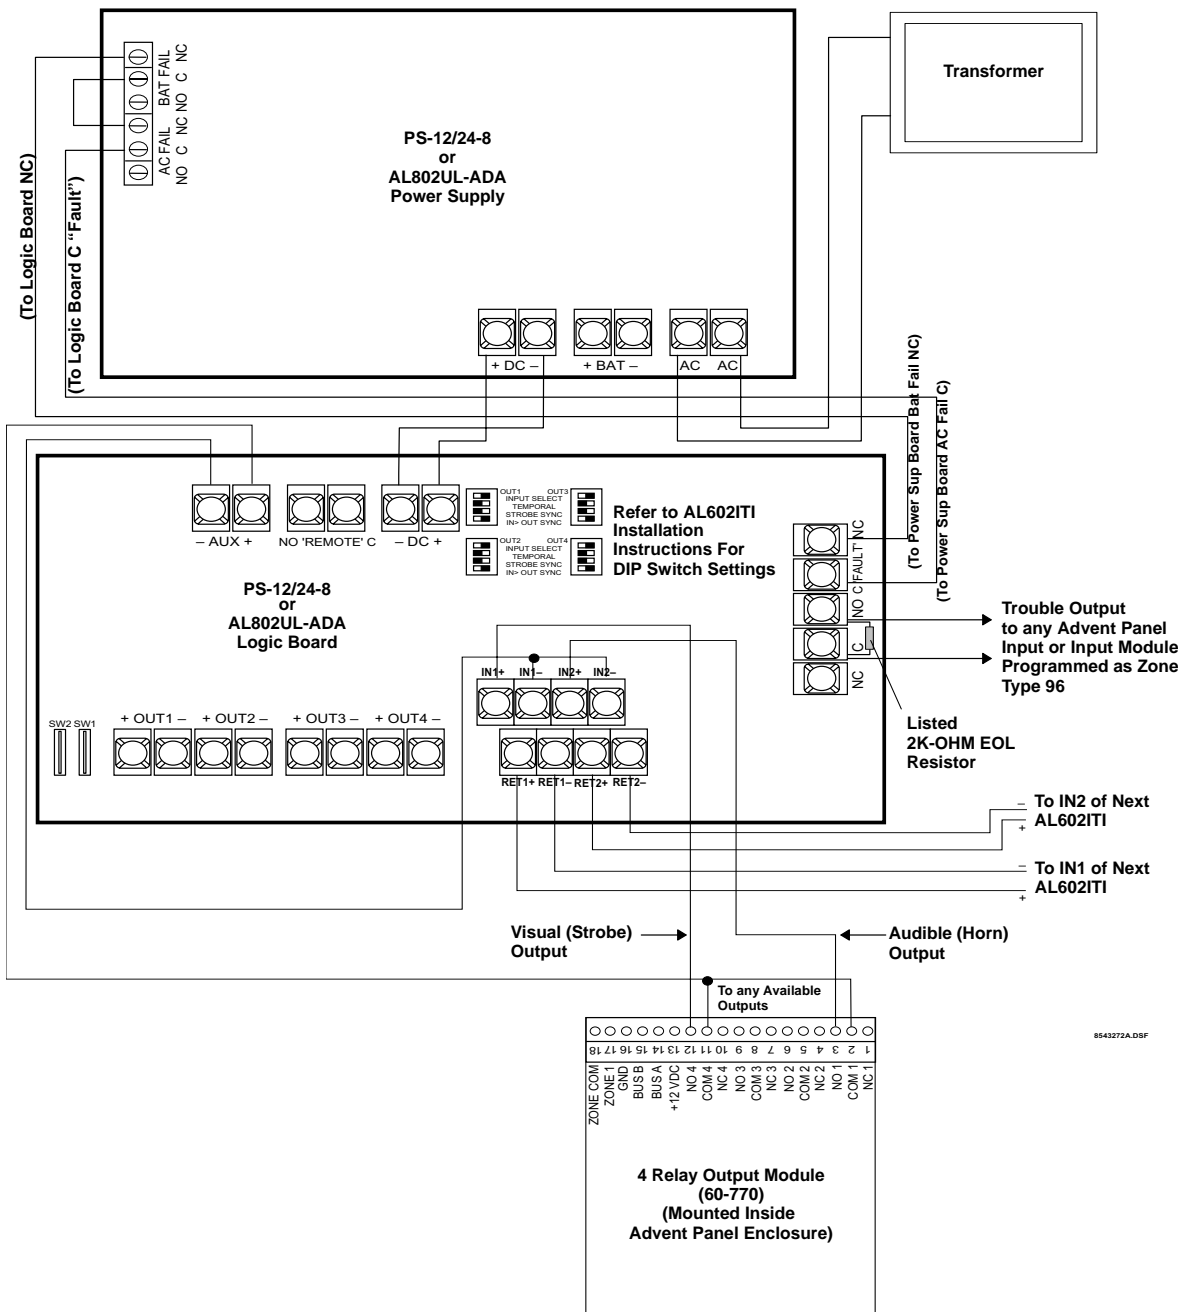

Figure C5. Wiring AL602IT1 Power Supply
1. Wire the “AC Fail” and “Battery Fail” outputs to the “Fault” input in the AL602ITI as shown in Figure C5.
2. Wire this output relay to input 2 on the AL602ITI as shown in Figure C5.
2. Wire this output relay to input 1 on the AL602ITI as shown in Figure C5.
If additional power or outputs are required, up to 3 additional AL602ITI NAC Power Supplies can be added by connecting the “RET” terminals of the first AL602ITI to the corresponding “IN” terminals of the next AL602ITI and so on. See Figure C5 for details.